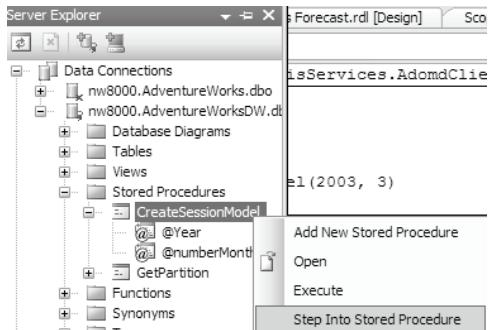

Figure 18.20 You can debug a CLR stored procedure from BI Studio.
4. Press **Ctrl+Alt+S** to open the Server Explorer. Expand the *AdventureWorksDW connection* \Rightarrow *Stored Procedures*. Right-click on the *CreateSessionModel* stored procedure and choose *Step Into Stored Procedure* (Figure 18.20).